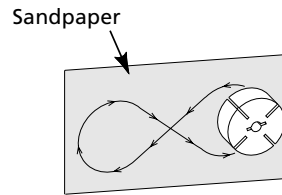

Figure 27 - Sanding Rotor
14. Place fine grade sandpaper (600 grit) on flat surface. Sand rotor lightly in "figure 8" motion four times (See Figure 27).